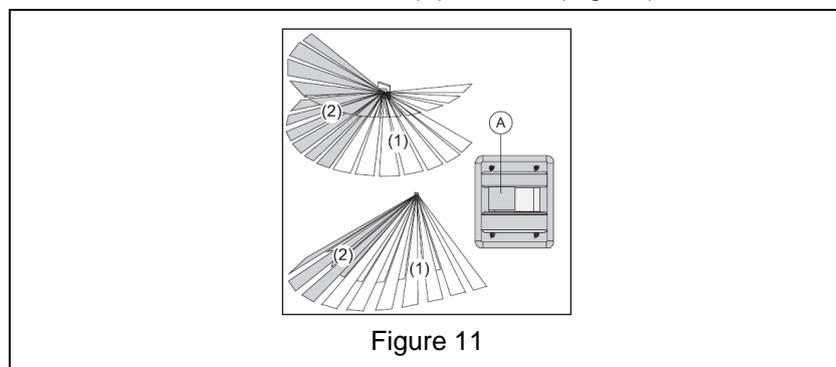

Figure 11
Detection field with mask element (A) inserted (Fig. 11).